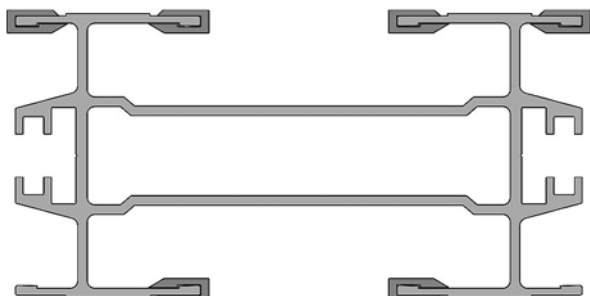

Figure 30
2. Attach the six slide rails onto the conveyor frame in the locations shown in Figure 30.